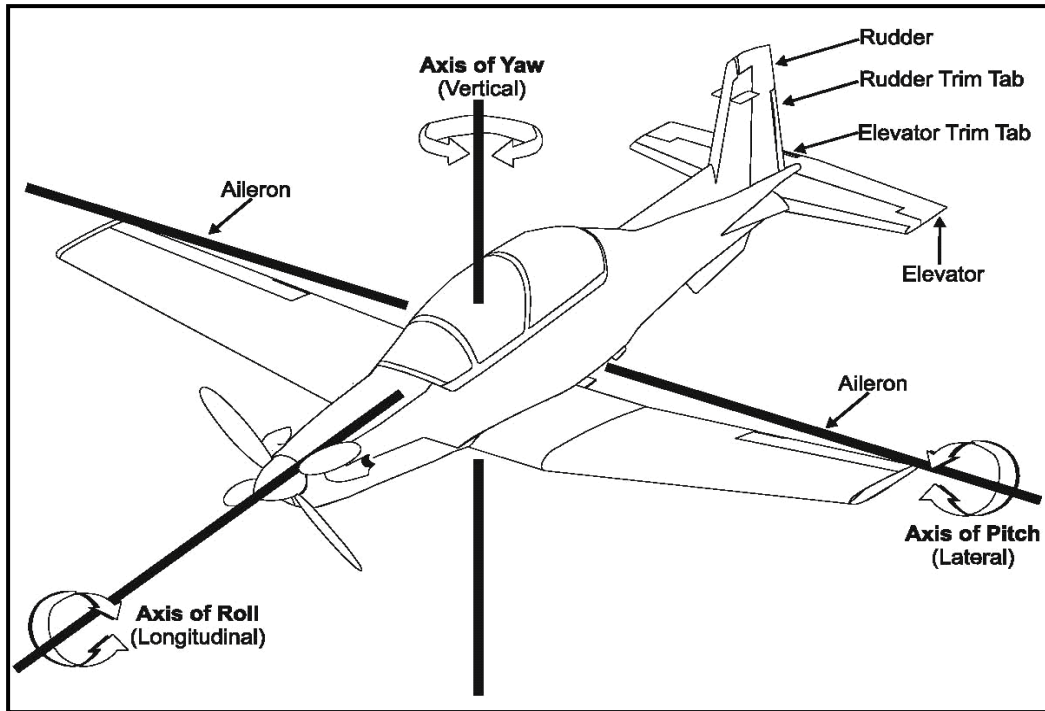

**Figure A-1 AOA**
**AOA:** The instantaneous angle between a reference line on the airplane (usually the wing chord line) and the relative wind (Figure A-1).